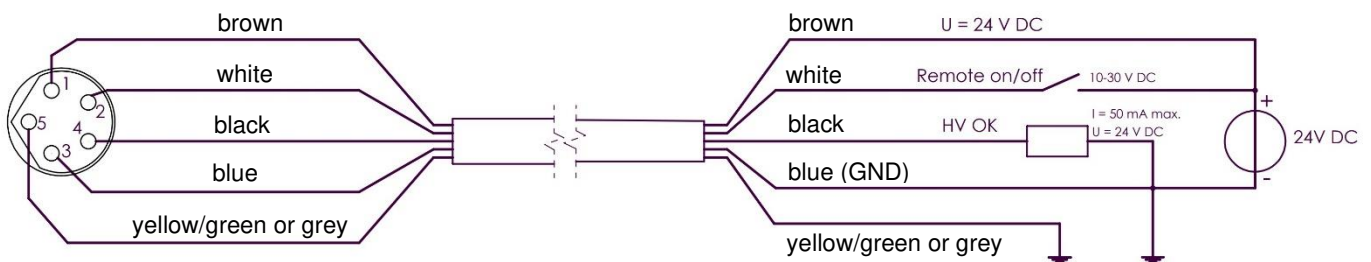

Figure 6: Wiring Vicinion
- Connect the wiring according to Figure 6.